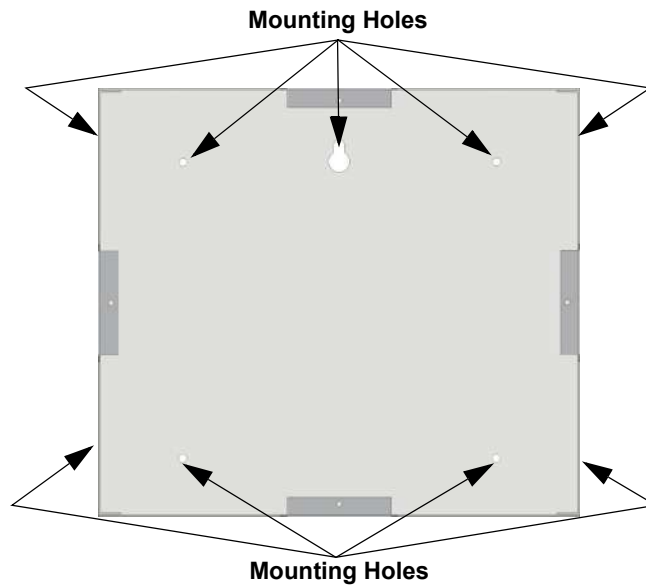

Figure 4.25 Backbox Mounting Holes
1. The backbox dimensions are 9-9/32" W x 8-3/8" H. The backbox can be mounted prior to the complete installation of the RA-100 using any of the mounting holes shown in Figures 4.25.